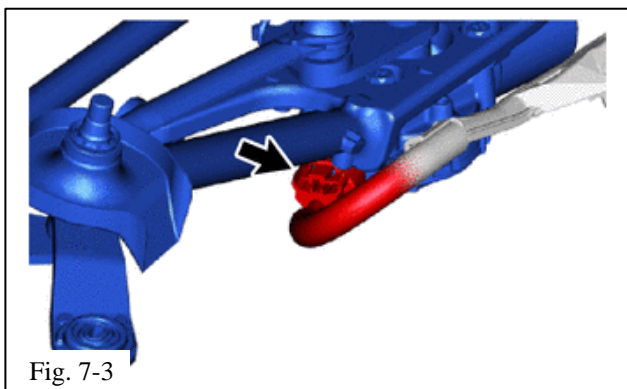

Fig. 7-3
- (2) Connect the connector (Fig. 7-3).